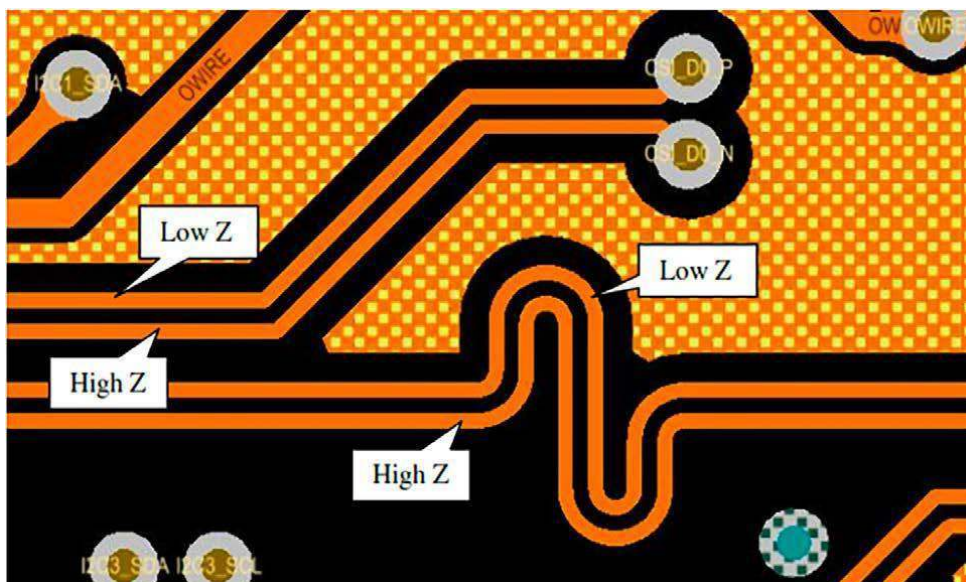

Figure 3: Copper pours lower the impedance of nearby traces.
When copper pours come into proximity with critical signal traces (Figure 3), the impedance is reduced by 2–3 ohms. So, on the copper side of the differential pair, the impedance will be lower than the other side free of copper. This will convert differential mode signals into common mode signals at these points, impacting signal integrity. If a differential pair is well balanced, then tight coupling will achieve an effective degree of field cancellation. However, if they are not perfectly balanced, then the degree of cancellation is
- When copper pours come into proximity of critical signal traces (Figure 3) the impedance is reduced by 2–3 ohms.